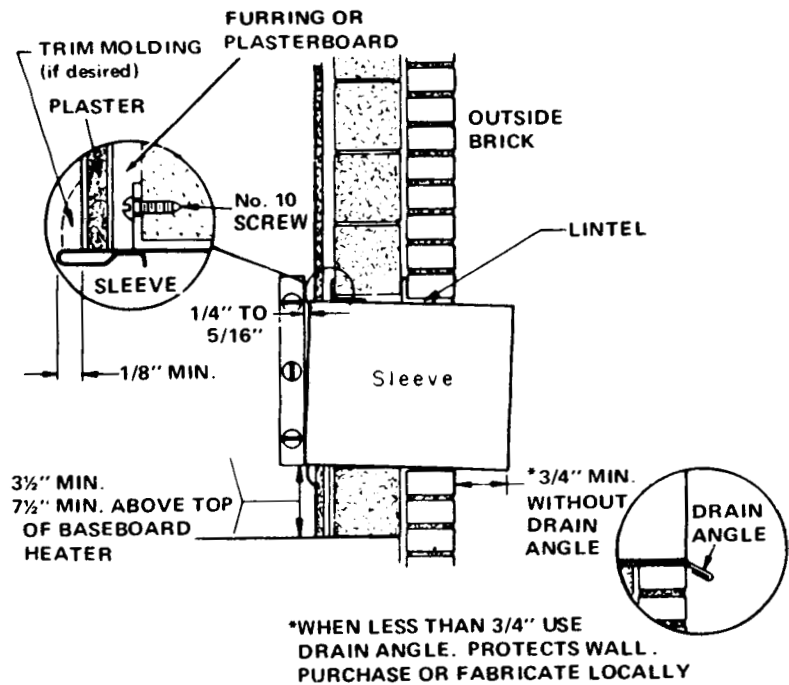

Fig. 1
3. Install Sleeve at desired depth within wall. Be sure that Sleeve has proper drainage slope outside. See Figure 1. Fasten securely by driving nails or screws from inside of Sleeve (through holes provided) into frame.
After Sleeve has been installed, caulk and flash where necessary entire perimeter around exterior wall opening and Sleeve. (See Figures 1 and 5). Use a good grade of caulking compound to seal all cracks against air and water infiltration.